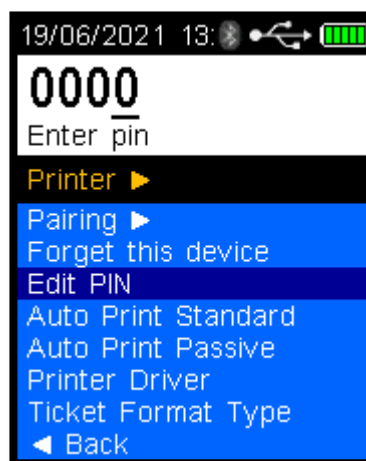

Figure 104 PINs Entered
- Repeat until all numbers are displayed as required by the printer (Refer Figure 104).